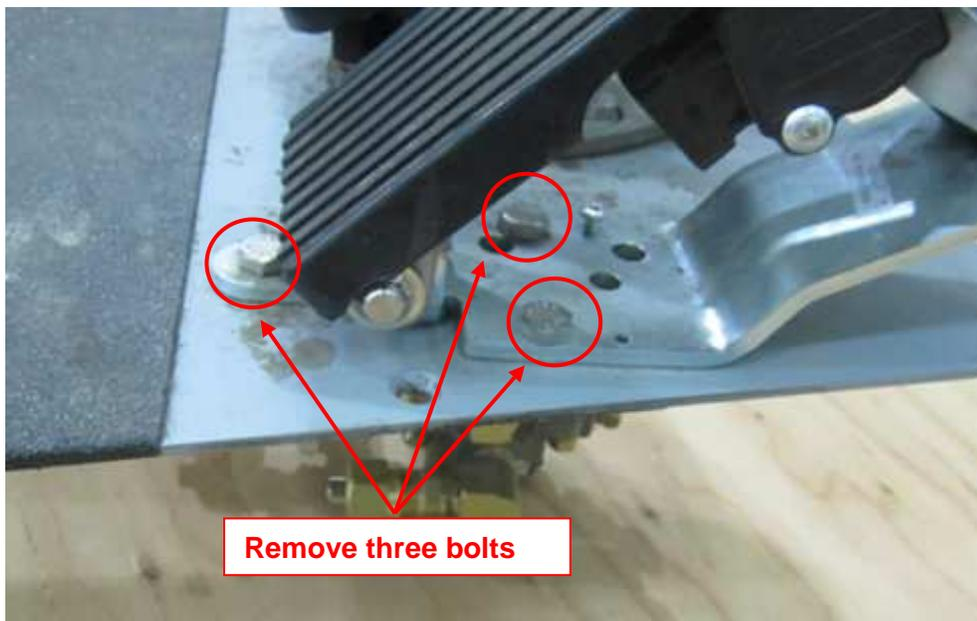

Figure 4: Remove Accelerator Treadle Assembly
14. Remove 3 bolts which attach the accelerator treadle to the plate. Discard locknuts and retain all remaining hardware for reuse, see Figure 4.
26. Using the hardware removed in Step 14 and 3 new lock nuts (PN: 40N05000), install the accelerator treadle on the new modified brake plate (PN: 553382), see Figures 4, 10(a) and 10(b).